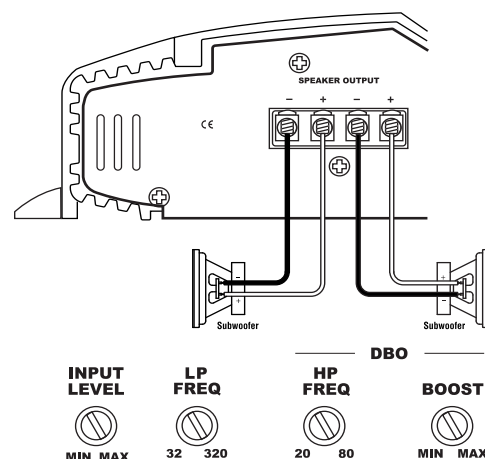

Figure 3. Reference subwoofer amplifier with two woofer connections.
To the right are two application diagrams to help plan your subwoofer system installation. Figures 3 and 4 show how to configure the Reference subwoofer amplifiers (models 311a, 611a and 1211a).
**NOTE:** For simplicity, Figures 3 and 4 do not show power, remote and input connections.